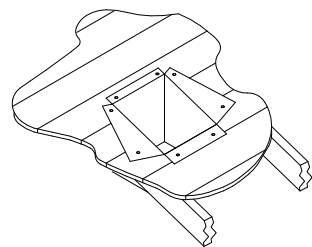

Figure 21
7. Using tin snips, cut the Support Box from the top corners down to the roof line, and fold the resulting flap over the roof sheathing (Figure 21). Before nailing it to roof, run a bead of non-hardening sealant around the outside top edges of the Support Box so as to make a seal between the box and the roof. Clean out any combustible material or debris from inside the Support Box.